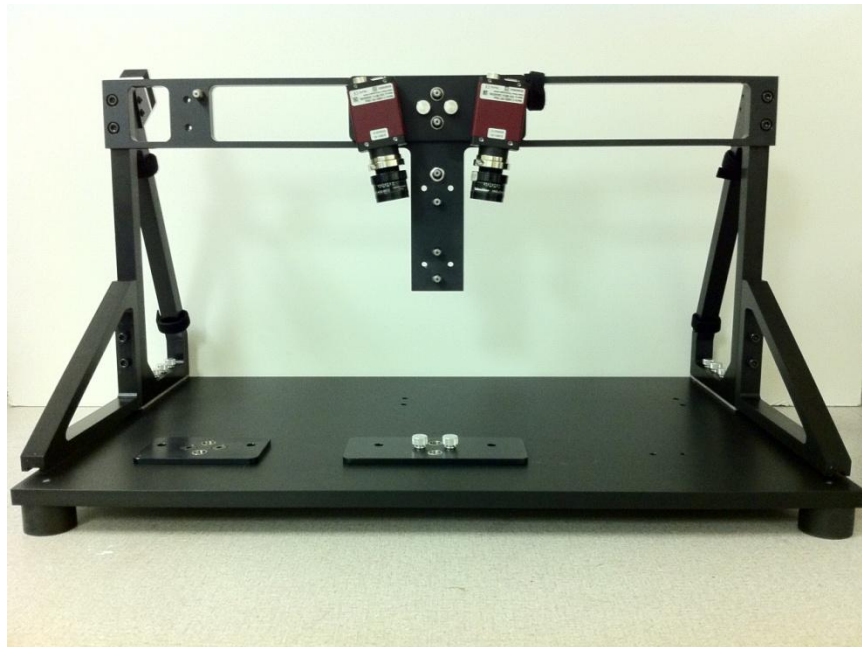

Figure 2.8 DIC System Installed on Standby Plate
8. Loosen the six aluminum thumbscrews on the two triangles and take off the DIC assembly support (Common Crossbar Mount Support with two Carriage Assembly Support Triangles) from the oven lid. Attach the whole assembly onto the Akrometrix-supplied standby plate with six aluminum thumbscrews (**Figure 2.8**).